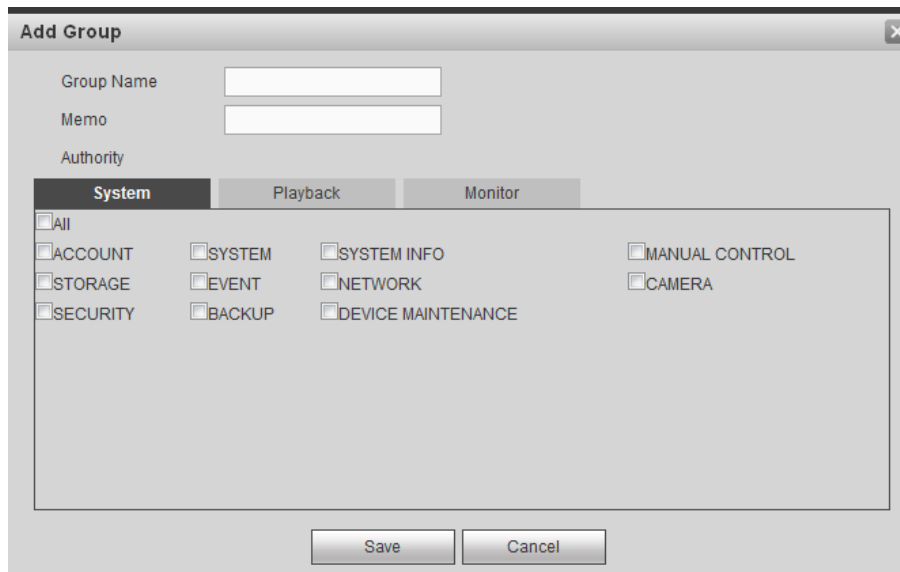

Figure 4-148
Step 1 Click Add group button. Enter add group interface. See Figure 4-148.